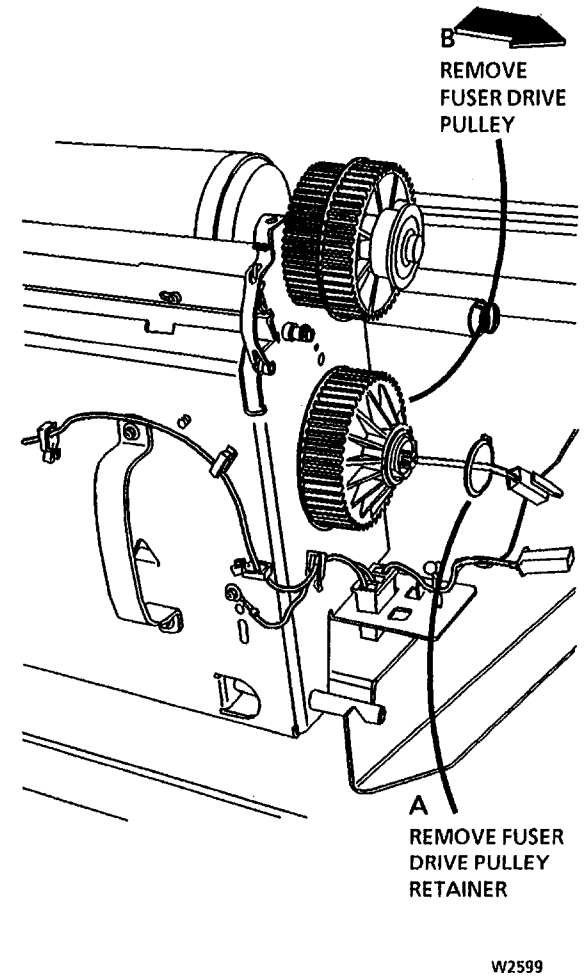

Figure 2. Remove the Fuser Drive Pulley
2. (Figure 2): Fuser Triac.
3. (Figure 2): Remove the Fuser Drive Pulley.